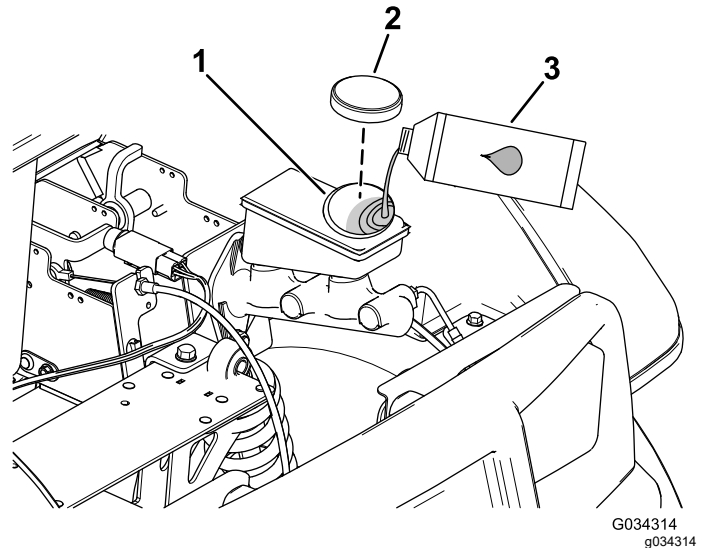

Figure 65
4. Raise the hood to gain access to the master-brake cylinder and reservoir (Figure 65).
- A. Clean the area around the reservoir cap and remove the cap (Figure 65).
- C. Install the reservoir cap (Figure 65).